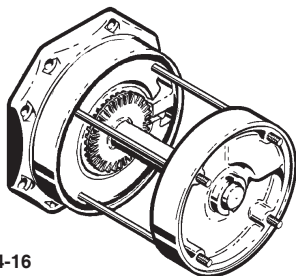

Figure 4-16
- c. With the "O"ring facing the left hand channel ring, slide the channel ring onto the guide rods. The small outlet opening should be on the same side as the pump inlet. Refer to Figure 4-16. Push
- With the "O"ring facing the left hand channel ring, slide the channel ring onto the guide rods. The small outlet opening should be on the same side as the pump inlet. Refer to Figure 4-16. Push on firmly until the "O" ring fits inside the lip in the left hand channel ring. Refer to Figure 4-14.